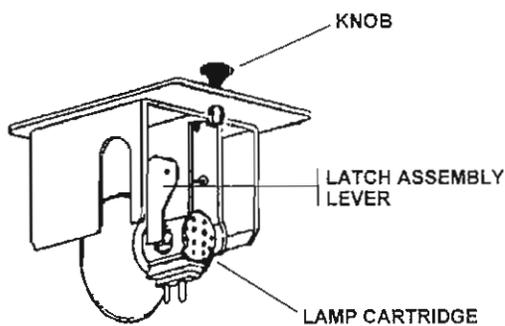

Figure 3-4. Positioning the lamp cartridge assembly.
- (4) Position the lamp cartridge assembly in your left hand as illustrated in figure 3-4.
- (1) Position the lamp cartridge assembly in your left hand as illustrated in figure 3-4.